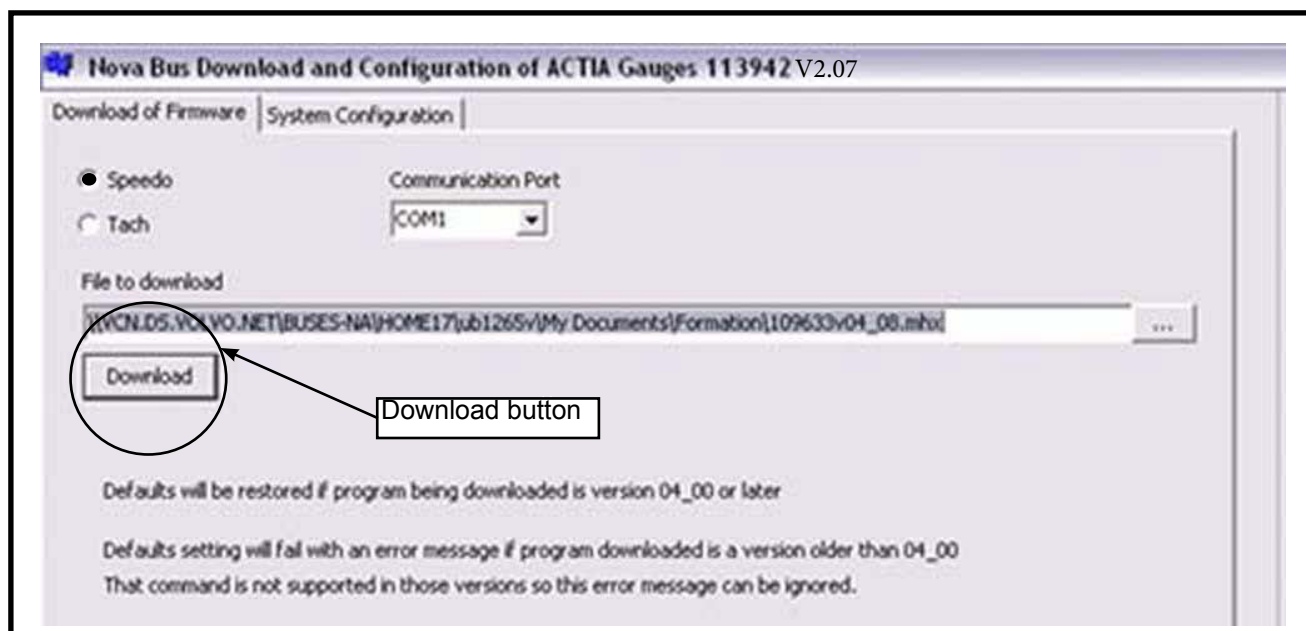

Figure 14 - Download the Program
3.1.9 Click the Download button (see Figure 14).